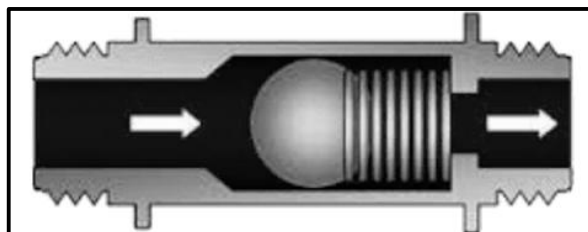

FIGURE 11.4
- 11.4 FIGURE 11.4 below shows a hydraulic valve. Answer the questions that follow.